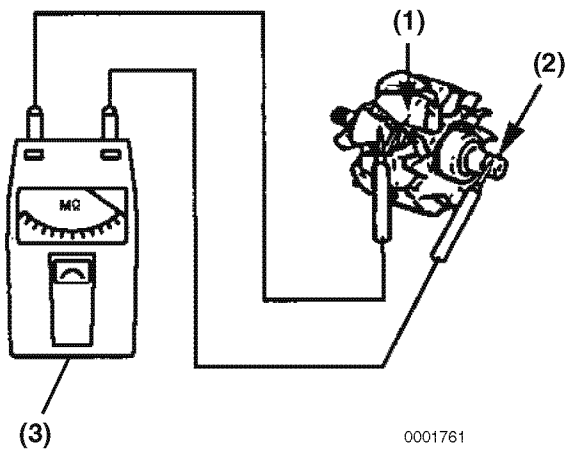

Figure 11-15
Check the insulation between the rotor core (Figure 11-15, (1)) and the slip rings (Figure 11-15, (2)) using a 500 V Megger tester (Figure 11-15, (3)).